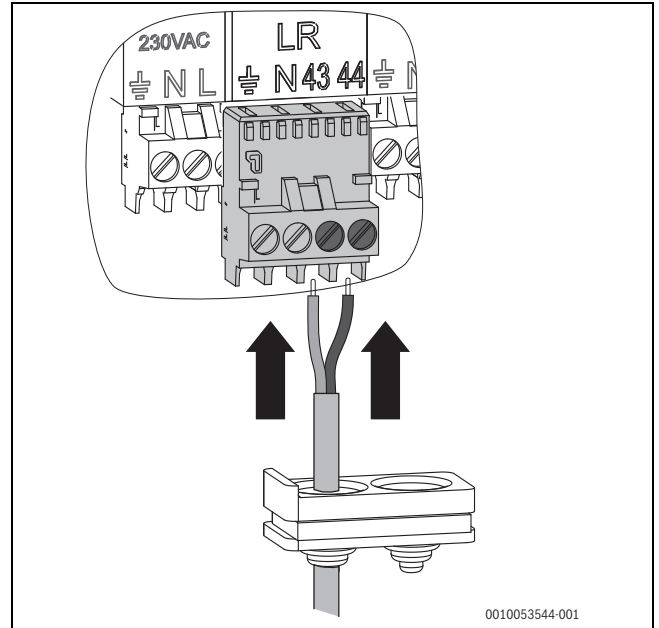

Fig. 31 Connect the connection line of the external controller to the terminal
- ▶ Connect the connecting cable of the controller to terminal connections **43** and **44** properly (→Fig. 31)